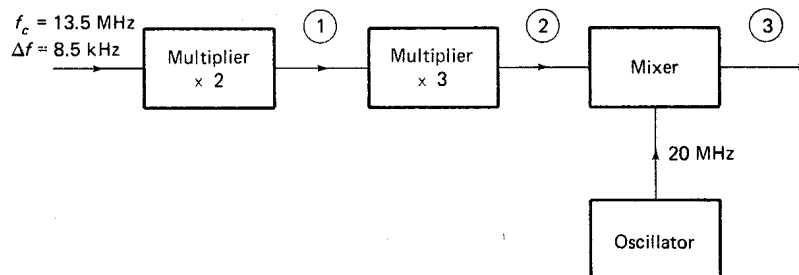

Fig. 4-19
- 4.64 Figure 4-19 is the block diagram of the frequency-multiplication and heterodyne section of an FM transmitter. Determine the carrier frequency and frequency deviation at points 1, 2, and 3. *Ans.* 27 MHz, 17 kHz, 81 MHz, 51 kHz; 101 MHz; 51 kHz